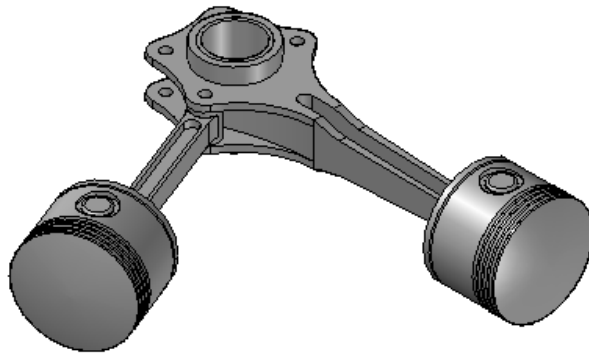

Figure 12-43 The first instance of the subassembly assembled with the main assembly
5. Assemble the subassembly with the main assembly using the **Mate**, **Axial Align**, and **Angle** assembly relationships. The first instance of the subassembly after assembling with the main assembly is shown in Figure 12-43. Note that while applying the **Angle** relationship, you need to choose the **4** button from the **Angle Format** flyout of the **Placement** rollout in the **Angle** command bar.